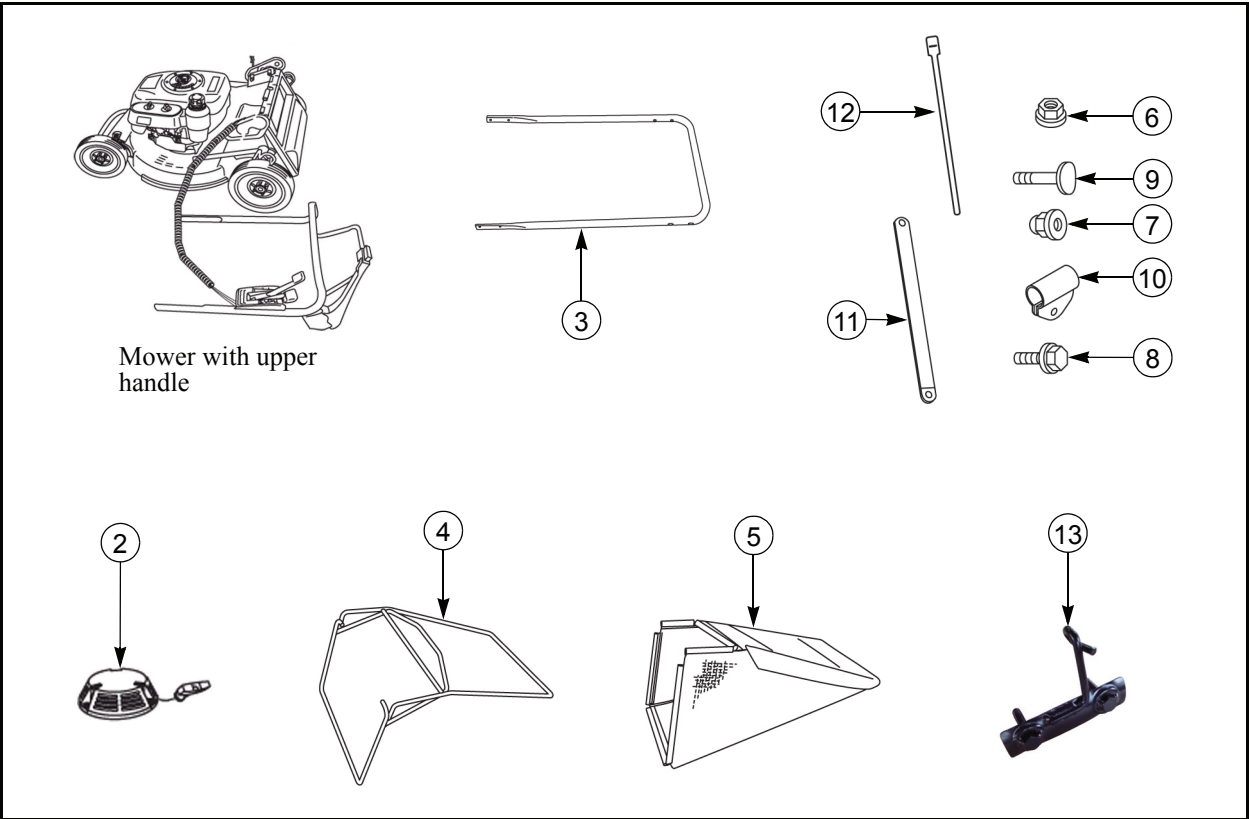

Fig. 4-1
1. Remove the mower from shipping carton and verify that all the accessories not attached to the mower are accounted for as shown on parts list. Fig. 4-1